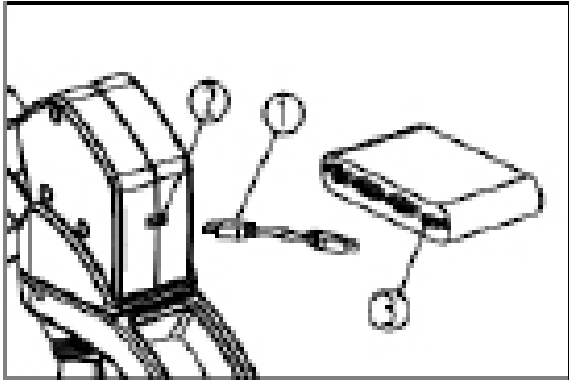

Fig. 20
Insert the connector (1) of HDMI cable into the HDMI Interface (2) on the back of microscope head, view the real time image by connecting the other end to the converter device (3) (See Fig.20 (Only for HDMI digital microscope.)